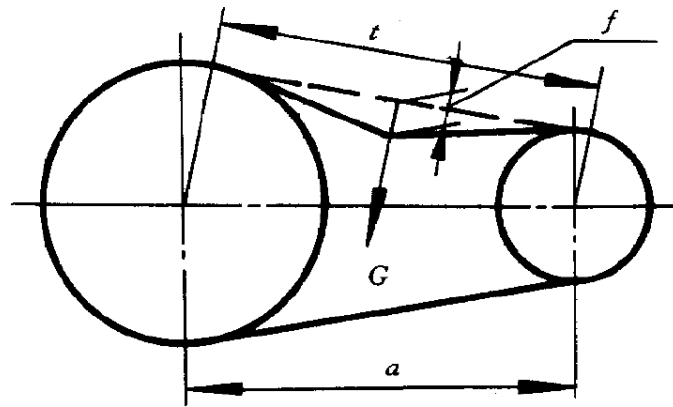

Figure 9-7 Synchronous belt installation deflection
- Step7. Adjust the screw position, adjust the timing belt to the proper pre-tightening force and installation deflection (refer to Figure 9-7), the recommended pre-tightening force is 14.6N, and the installation deflection is 2.6mm.